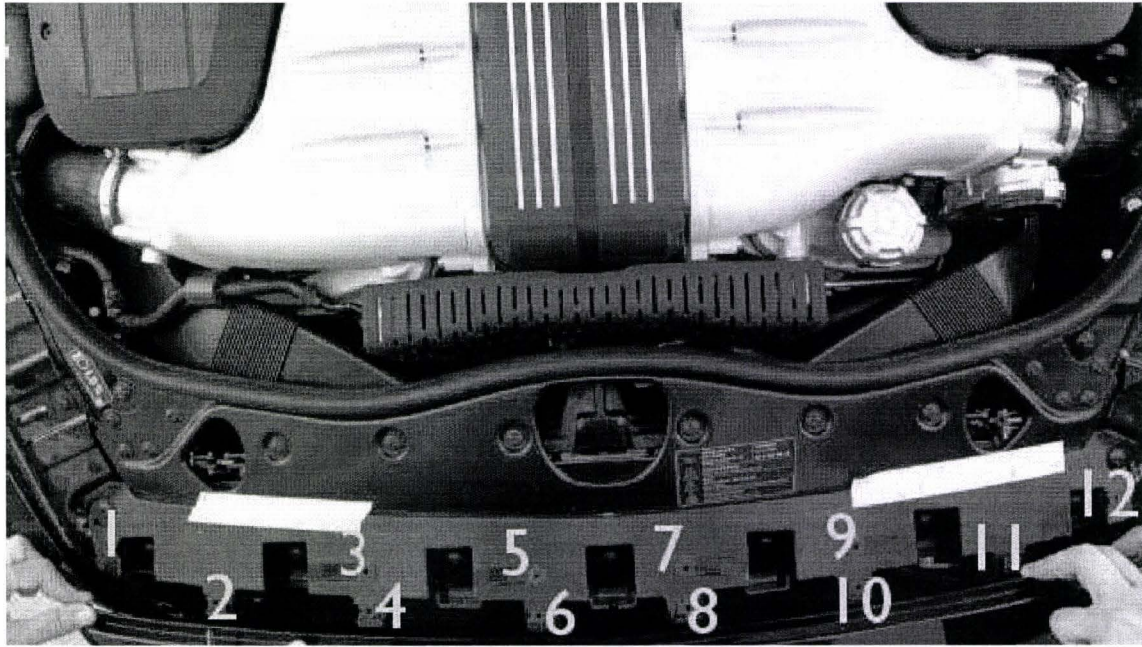

Figure 6
- Remove and discard the twelve original black clips as shown in Figure 6 and replace with new silver clips **NOTE:** In the event that silver clips are found to be already fitted there is no requirement to replace the existing silver clips